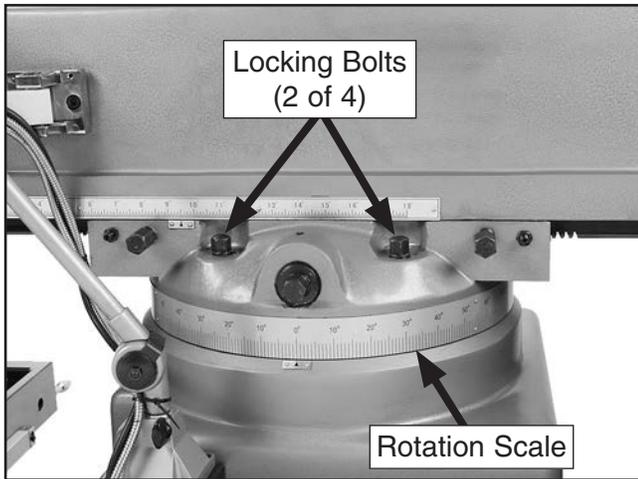

Figure 36. Ram rotation locking bolts.
2. Loosen the four locking bolts (see **Figure 36**). There are two bolts on each side of ram.